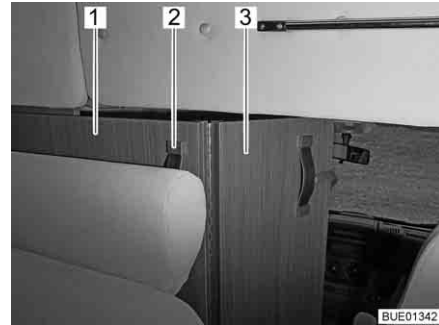

Fig. 49 Driver's cabin partition
- Grip the handle (Fig. 49,2) of the driver's cabin partition (Fig. 49,1) and pull it inwards until the edge of the driver's cabin partition is roughly level with the backrest of the bench seat (Fig. 49).
- Fold out the folding part of the driver's cabin partition (Fig. 49,3) between the seats of the driver's cabin.